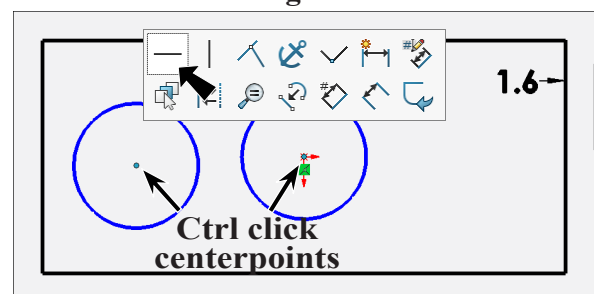

Fig. 41
Step 9. **Ctrl click both circle centerpoints** to select both. Release Ctrl key and click **Make Horizontal**  on the context toolbar, Fig. 41.